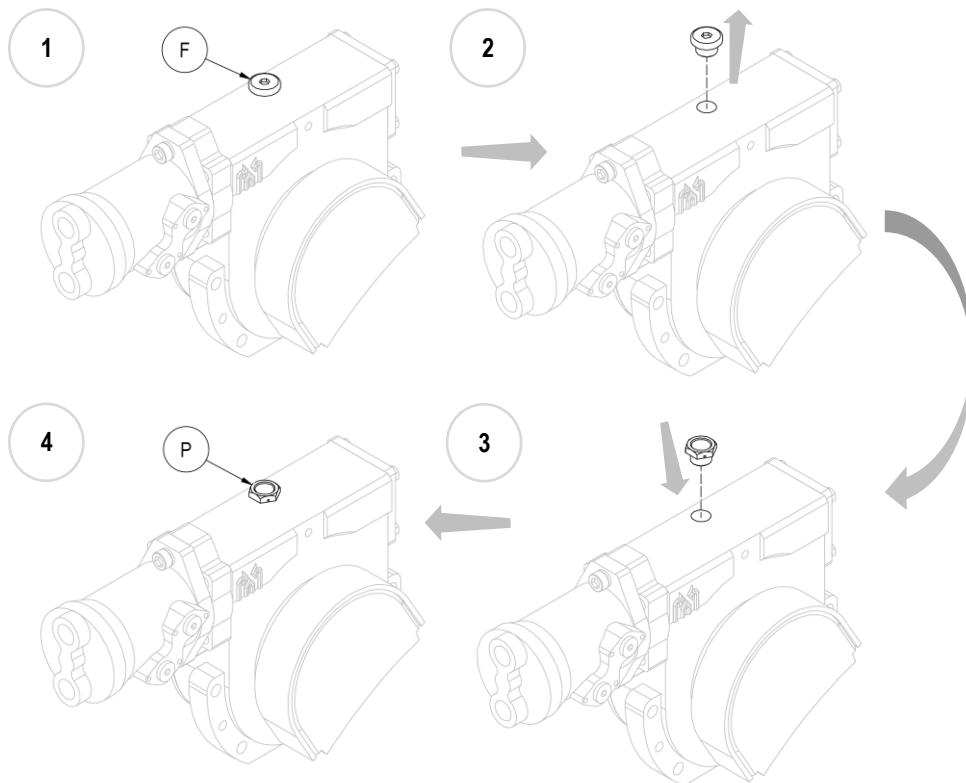

Figure 5
10. **N.B.** With the equipment mounted, before use, replace the blind iron oil filler plug (F) with the plastic one supplied (P), which includes a breather (see *Figure 5*).